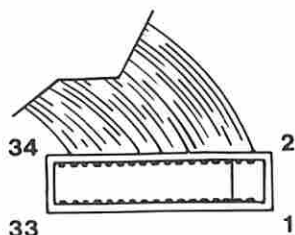

Figure 1. Signal Cable Voltage Check
- Power on the system and check the voltage at pin 8 of the signal cable (diskette drive end) as shown in Figure 1 on page 0600-5. The voltage should be 2.0 to 5.5 Vdc.